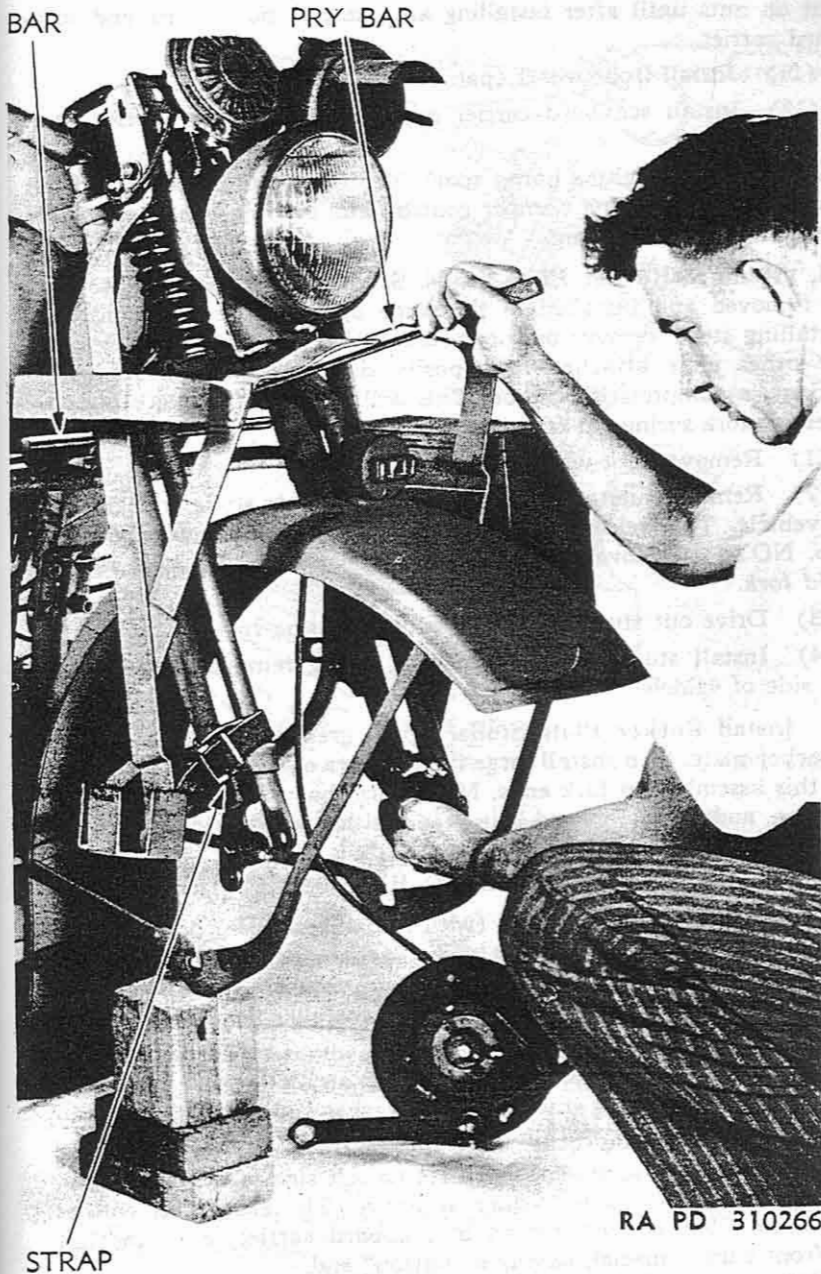

Figure 64—Compressing Cushion Springs for Spring Fork Assembly
(1) Place buffer springs and lower cushion springs on fork rods. Apply grease to rods. Pass fork rods up through rigid fork bracket. Bind lower end of spring fork to lower end of rigid fork with a strap or piece of heavy wire (fig. 64), to prevent forks from separating while compressing cushion springs.
(2) Install two bolts in the rigid fork brackets which mount the mudguard; then place a rod about 8 inches long on the brackets to provide a pry base for the leverage bar when compressing cushion springs (fig. 64). With a leverage bar about 18 inches long, anchored on top of the pry base rod and under the spring fork, lift upward to compress cushion springs sufficiently to install one of the rocker plates. Then install the other rocker plate (fig. 64). NOTE: Left side spring fork rocker plate stud has a button end which fits into notch in brake stabilizer plate.
(3) Install mudguard (par. 104).
(4) Install front wheel (par. 125).